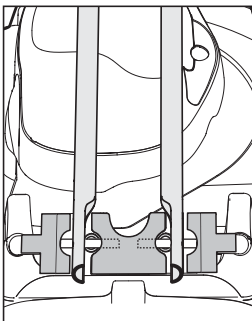

Fig 2.
4. Replace the outer mating pieces on each side and partly tighten into place with fastening knobs, but do not fully tighten yet (see fig 2).